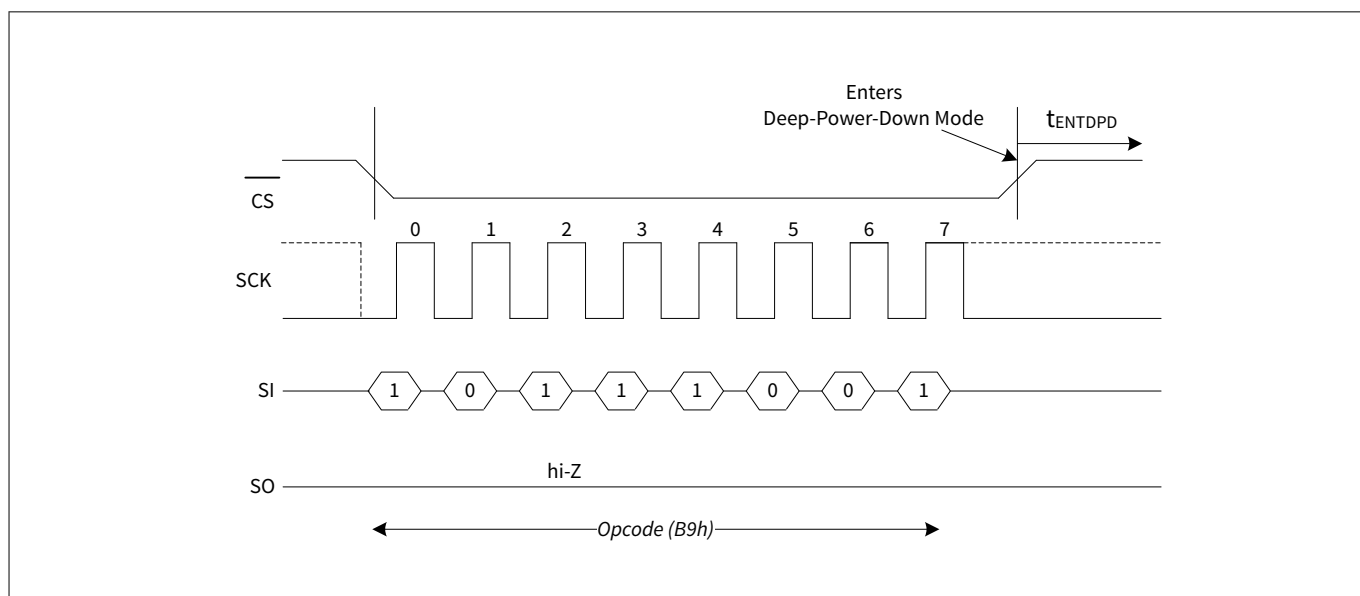
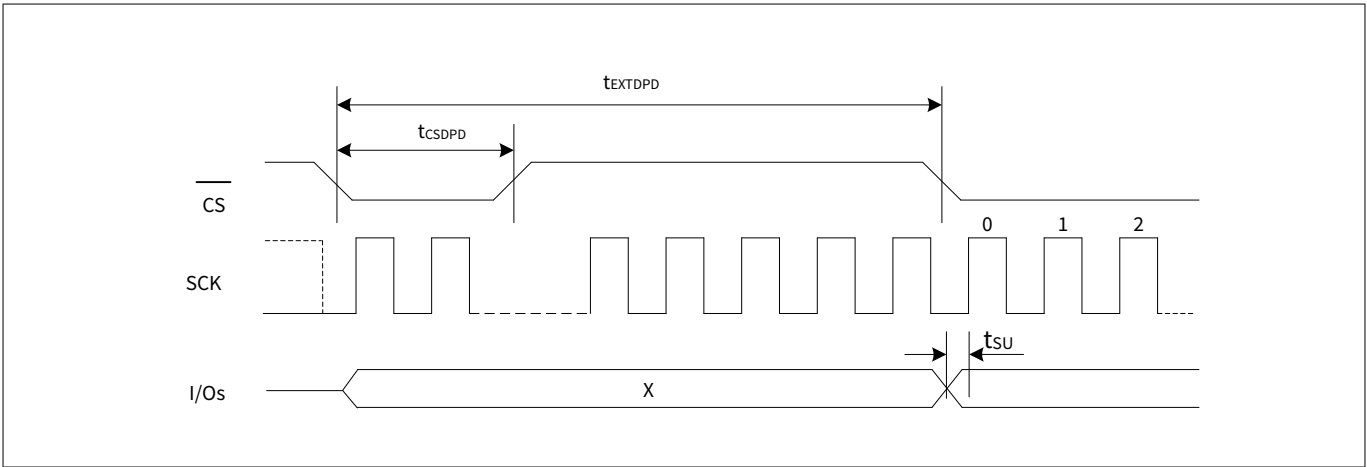

Figure 101 DPD entry in SPI mode
Figure 104 DPD exit in SPI mode
A $\overline{CS}$ pulse-width of t_{CSDPD} or hardware reset exits the DPD mode after t_{EXTDPD} time. The $\overline{CS}$ pulse-width can be generated either by sending a dummy command cycle or toggling $\overline{CS}$ alone while SCK and I/Os are don't care. The I/Os remain in hi-Z state during the wakeup from deep power down. Refer to Figure 101 for DPD entry and Figure 104 for DPD exit timing.
- The timing details shown in the Figure 101 are applicable as is in DPI and QPI modes.